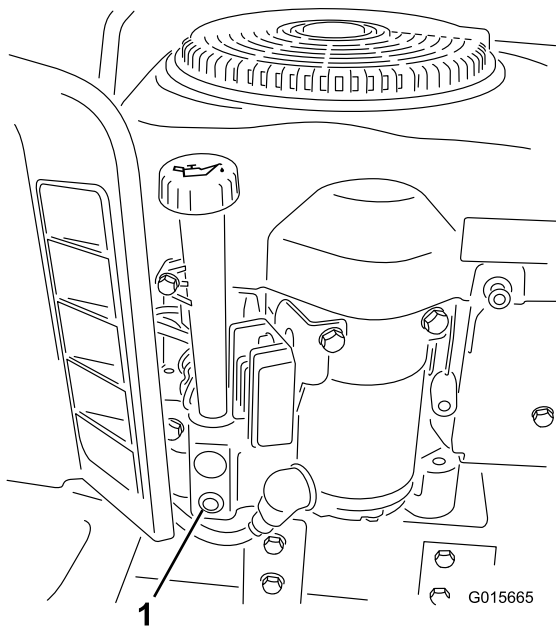

Figure 19
6. Place a drain pan below the oil-drain plug and open the drain plug by turning the end nut counterclockwise (Figure 19).
10. Unscrew the oil dipstick and slowly pour approximately 80% of the specified amount of oil into the fill hole (Figure 19).